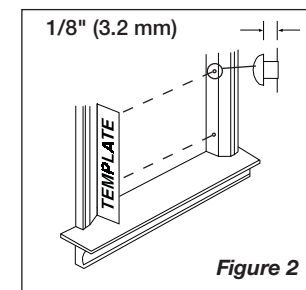

Figure 2
- Mark Screw locations on inside edges of window trim using enclosed Template. (Figure 2)